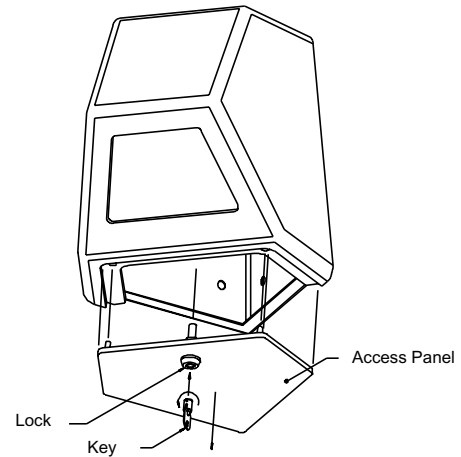

Figure 2: Removing Access Panel
**HS9303L:** Use the key provided to unscrew the lock. Remove the access panel. **See Figure 2.**